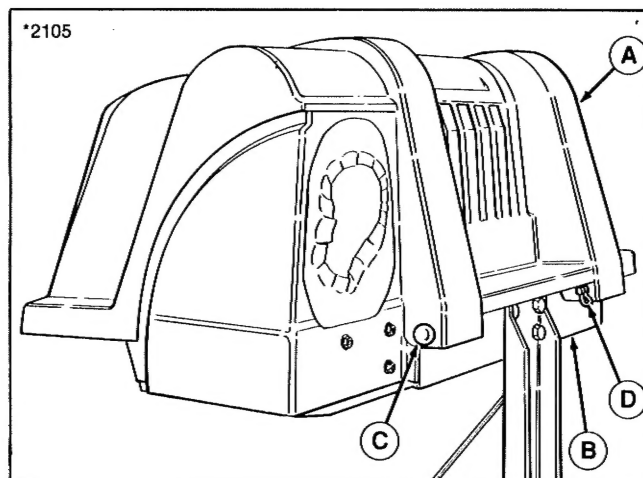

Figure 4.
6. Reinstall grass catcher cover (A, figure 4) to support (B) and secure with clevis pins (C) and clips (D).